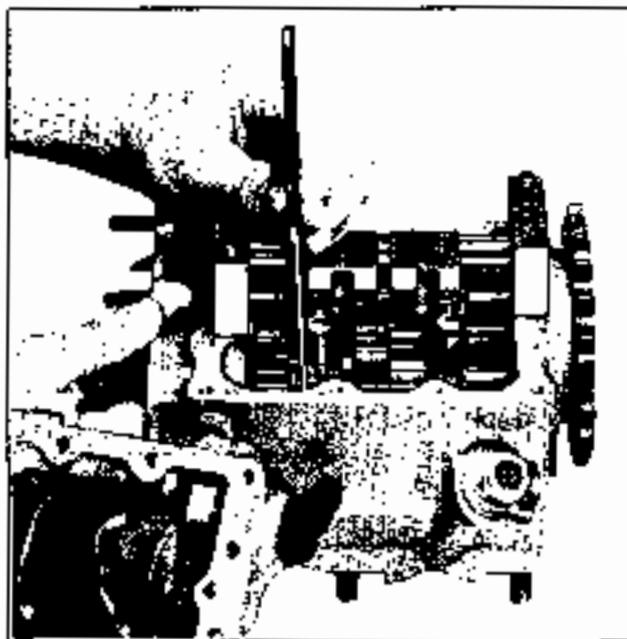
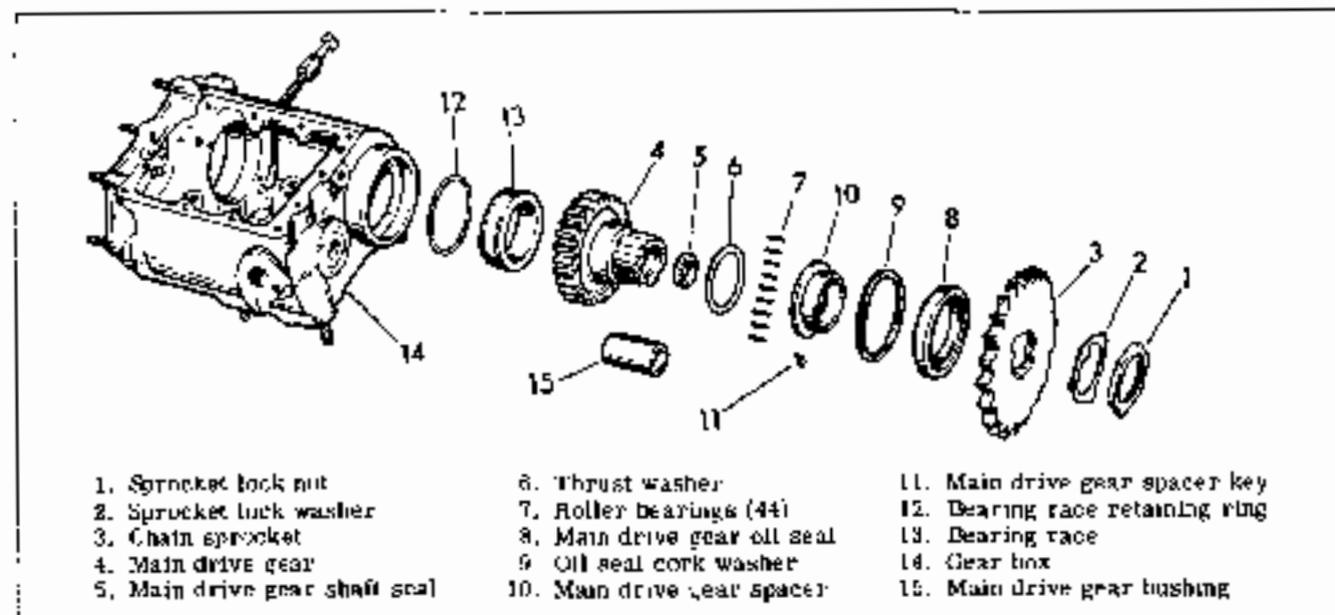

Figure 4-17. Checking Shifter Clutch Clearance
Figure 4-20 Main Drive Gear - Exploded View
Remove tool from cover, turn it over, and place it on transmission case with shifter fingers engaged in slots in gauge blocks as shown in Figure 4-17. Be sure shifter finger rollers are in place on shifter fingers.
DISASSEMBLING MAIN DRIVE GEAR (Figure 4-20)
To install main drive gear bearing race (13, Figure 4-20), heat race to about 300 degrees and press out old race with arbor press after removing bearing race retaining ring (12). Reheat case and press in new race until flange is seated against case. Install new bearing race retaining ring.
Check bearings (7, Figure 4-20) and 18 and 23, Figure 4-17) for proper fit in races according to tolerances shown in "Transmission Specifications." Replacement rollers are available standard, .0004 in. and .0008 in. oversize.
ASSEMBLING MAIN DRIVE GEAR (Figure 4-20)